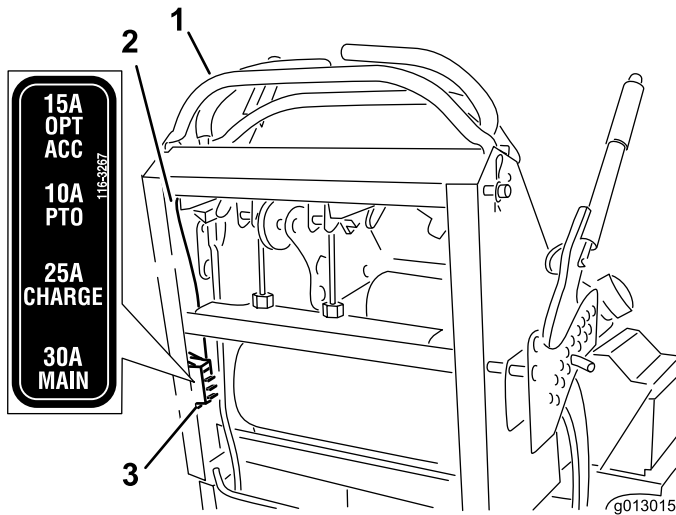

Figure 52
2. Pull out on the fuse to remove and replace it (Figure 52).